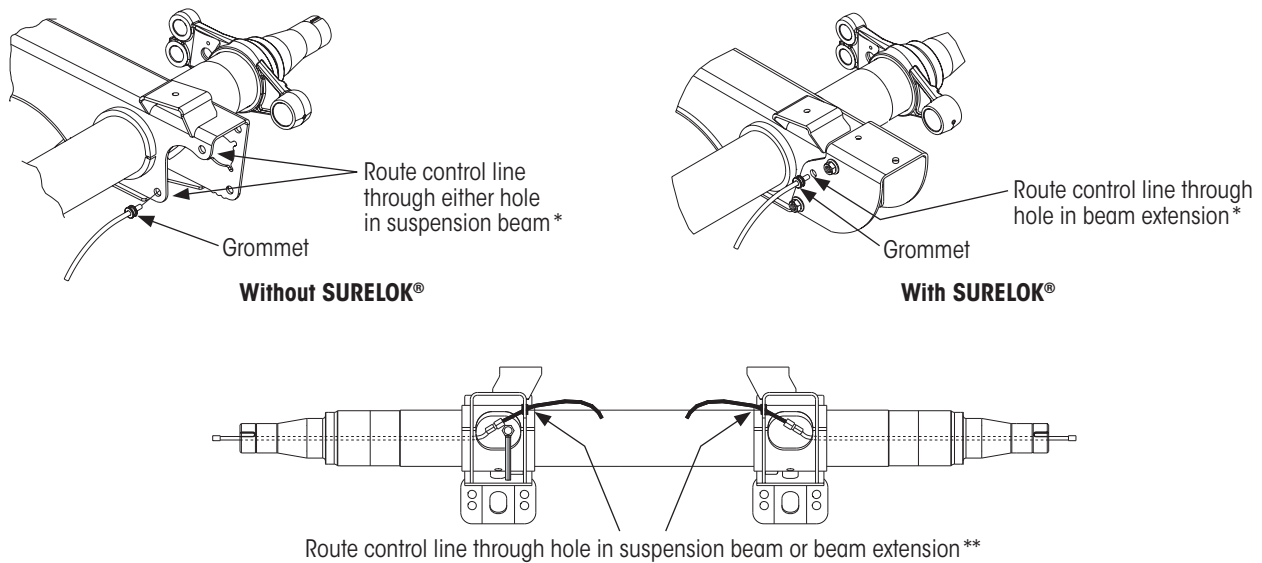

Figure 9: Suggested control line installation details for Top Mount, Wide Bushing, Standard Duty Models **AAT, HKAT**
- » For INTRAAX® and VANTRAAX® suspensions, insert the small end of the metal braided hose into the hole closest to the spindle end (Figure 9).
1. **Thread the fitting**, install the 90° supply fitting into the axle hose as shown in Figure 9.